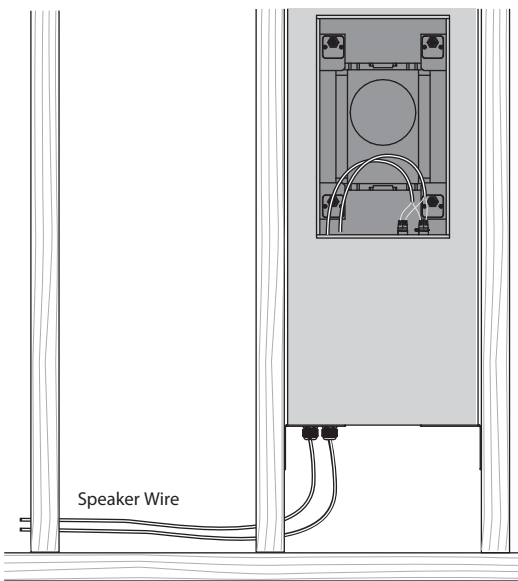

Fig. 4. Speaker Wire Installation to BACK CAN
2. Install the speaker wire in through one of the cable glands, and leave enough slack to make the connections (Fig. 4). Tighten the cable gland, and tie down the speaker cable to prevent it moving and rattling in operation. Make sure that the speaker cable does not come into contact with nails or screws that might damage the insulation. A second cable gland is provided to allow a second speaker cable run to be installed.